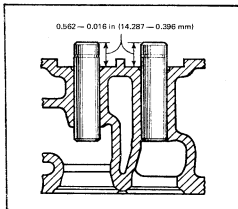

Fig. 17 - Valve guides - fitted position
- Fit new valve guides, to the dimensions given in General Data, through the ports and drive them into the position shown in Fig. 17.